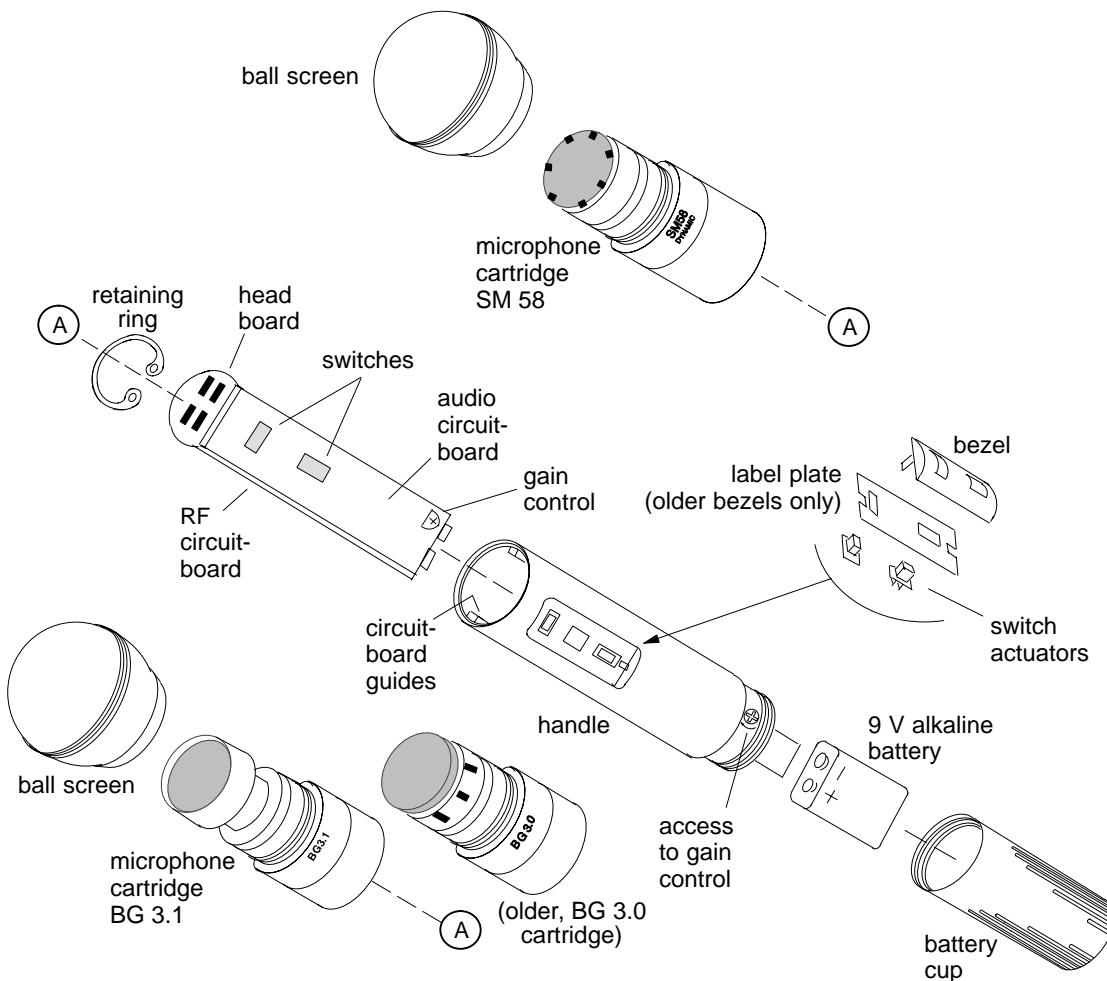

Figure 3.
- (b) Remove the bezel by carefully inserting a small screwdriver into the microphone handle, pressing the blade against the plastic bezel tab, and prying it up (Figure 2). Remove the label plate and switch actuators (Figure 3, page 10).
1. Insert the transmitter subassembly (audio, RF, and head circuit boards) into the internal guides of the handle (Figure 3).